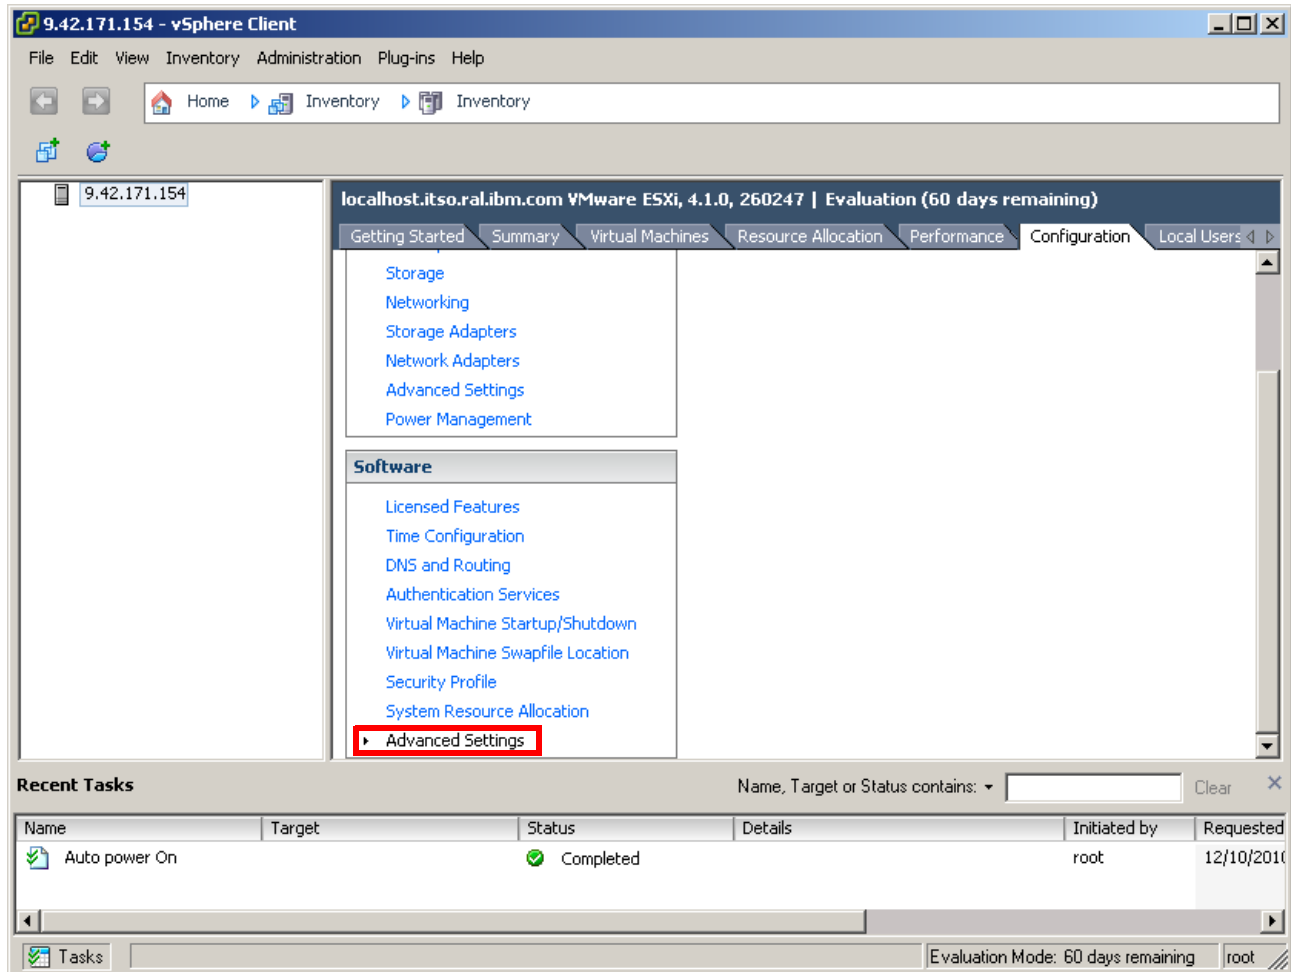

Figure 8-66 Configuration tab Software Advanced Settings
10. Select the **Configuration** tab of the host and click **Advanced Settings** under Software, as shown in Figure 8-66 on page 430.